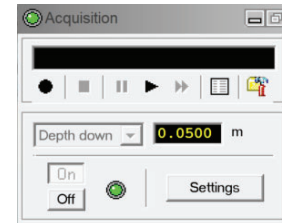

Figure 4-3 Acquisition panel
7. ☐ In the **Acquisition** panel (**Figure 4-3**) select the sampling mode (**Depth Down** or **Depth Up** depending on logging direction). Click on **Settings** and specify the corresponding sampling rate. Switch on the sampling (click the **ON** button). Note: The sampling button needs to be set to **OFF** before changing modes. **Time** mode is used for calibration and verifying tool operation at the surface.
8. ☐ If desired, complete a **Header** ☐ in the **Acquisition** panel (**Figure 4-3**). Press the **Record** ☒ button, specify a file name, and start the logging.